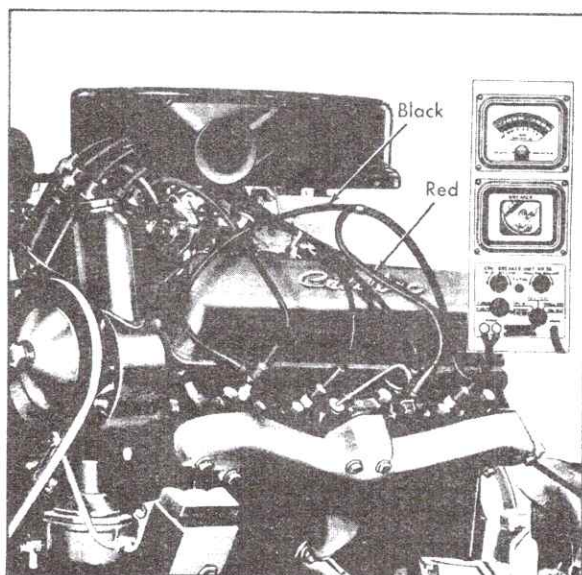

Fig. 6-24 Secondary Efficiency Test
4. Ground red (positive) lead of Coil Tester, Fig. 6-24.